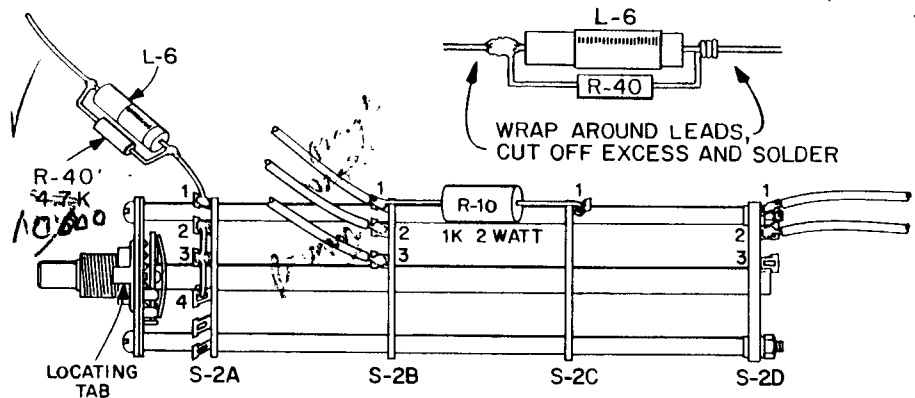

FIGURE 12. PREWIRING S-2
SEE FIGURE 12.
- ✓ S-2, the 4-wafer switch. Position the switch with the locating tab as shown in Figure 12.
- L-6, coil (marked with a violet dot) and R-40, 4.7K resistor (yellow, violet, red). Wrap the leads of R-40 around the leads of L-6 as close to the coil form as possible. Clip the excess and solder the leads of R-40 to those of L-6 as shown in Figure 12.
- L-7, coil (marked with a gray dot) and R-41, ~~100K~~ ¹⁰⁰⁰ resistor (yellow, ~~black, orange~~ ^{BR}). Solder R-41 across L-7 in the same manner R-40 was mounted to L-6. (See Figure 12). Solder one lead from L-7 to terminal 4 of S-2A (2 wires). Connect the other lead to terminal 1 of TS-9.